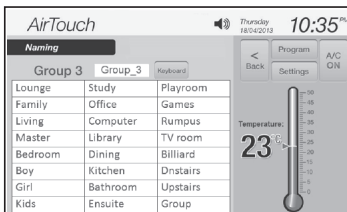

Figure 21.
- Touch the edit field of a group to rename it. A name list will appear for selection (Figure 21).